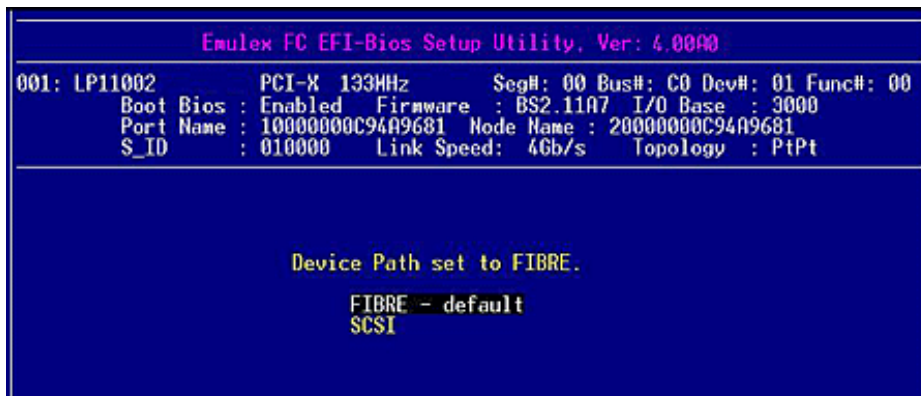

Figure 6-15 Device Path Screen
1. On the Boot Configuration menu, select **1, Device Path Selection** and press **<Enter>**. The screen shown in Figure 6-15 is displayed.